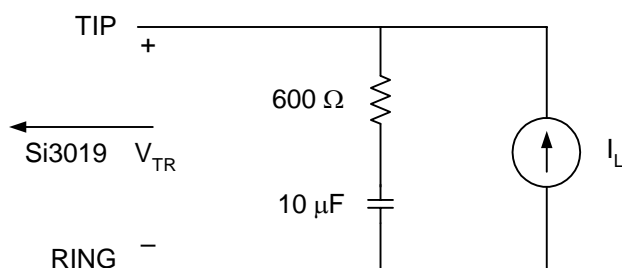

Figure 1. Test Circuit for Loop Characteristics
($V_D = 3.0$ to 3.6 V, $T_A = 0$ to 70 °C for K-Grade, see Figure 1 on page 6)
1. Measured at TIP and RING with 600 Ω termination at 1 kHz, as shown in Figure 1 on page 6.